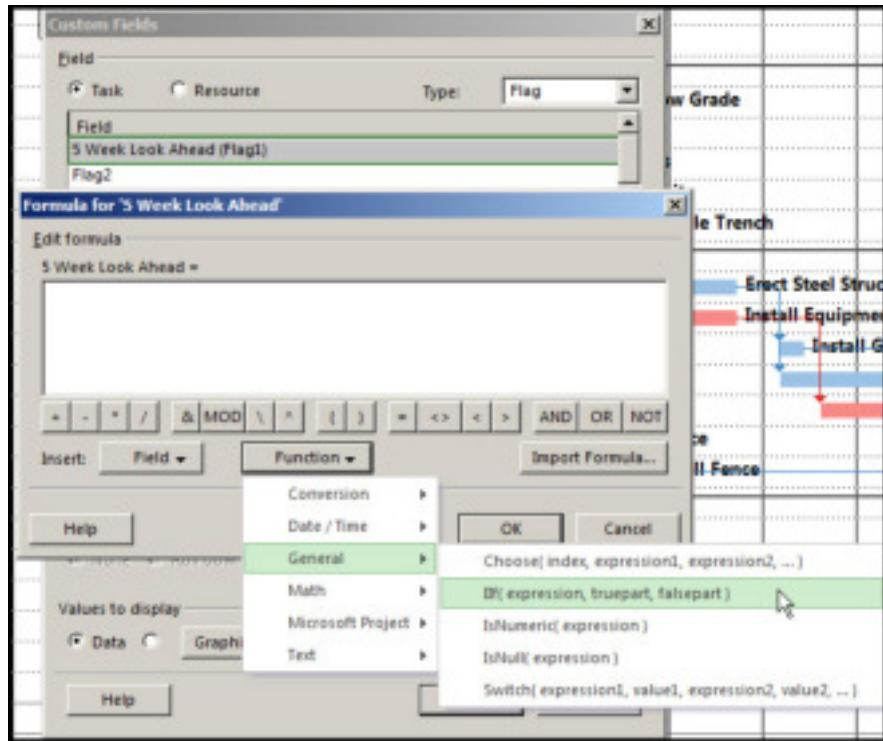

Figure 5
- E. Click the formula button. Select the Function General and select: IIf(expression, truepart, falsepart), Figure 5.